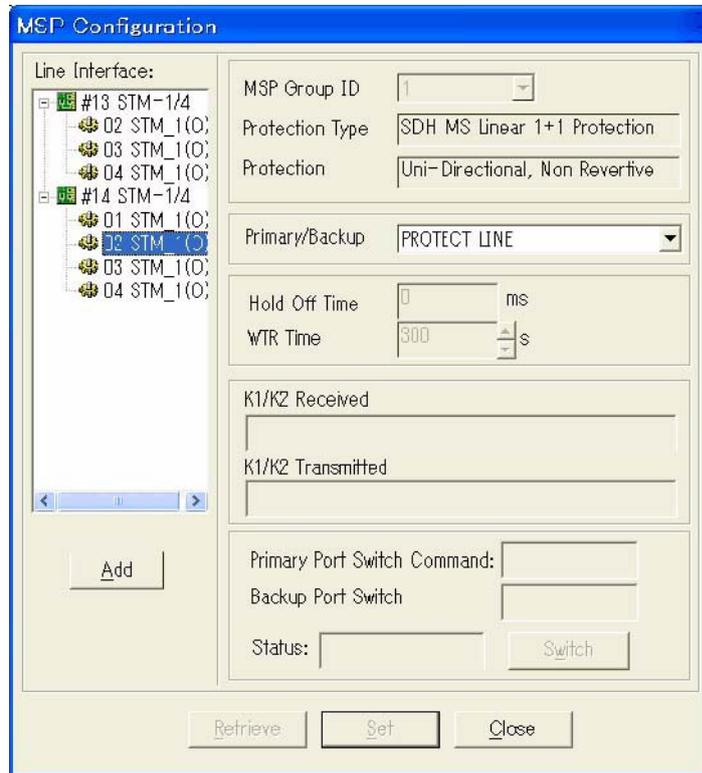

Fig. 4-4-22 MSP Configuration (2)
- 9 Click **Add** button, **MSP Configuration** window pops up shown in *Fig. 4-4-22*.